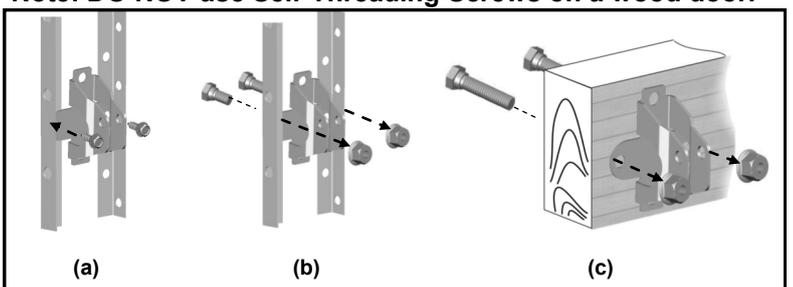

Fig.3
2. Depending on the construction of your door, install using one of the steps shown in Fig. 3 below:
(a) Mark and drill two 3/16" holes. Make sure not to drill through the garage door. Secure the Door Bracket with two 1/4" x 5/8" Self-Threading Screws (provided) as shown in Fig.3(a).
(b) Alternative installation: Drill two 5/16" holes through the door. Secure the Door Bracket using two 5/16" Bolts, lock washers and nuts (not provided) as shown in Fig.3(b). The length of bolts will depend on the thickness of your door.
(c) Mark and drill two 5/16" holes through the garage door. Secure the Door Bracket using two 5/16" carriage bolts, washers and nuts (not provided) as shown in Fig.3(c). The length of bolts will depend on the thickness of your door.